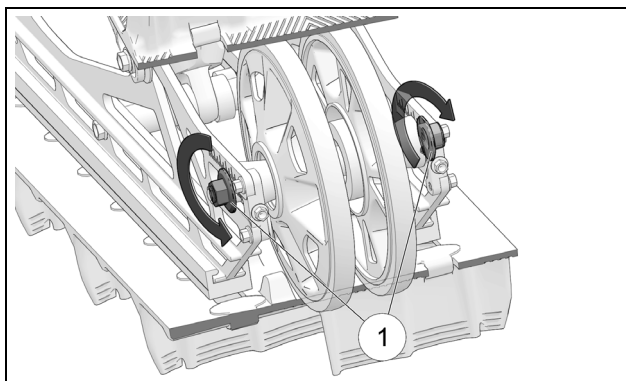

Figure 46
CAUTION: The two rear wheel assembly axle nuts (1) must be loosened before adjusting Track tension. See Figure 46.
- Tighten the two rear wheel axle nuts (1) back to 55 Nm (38 lb-ft) of torque. See Figure 46.